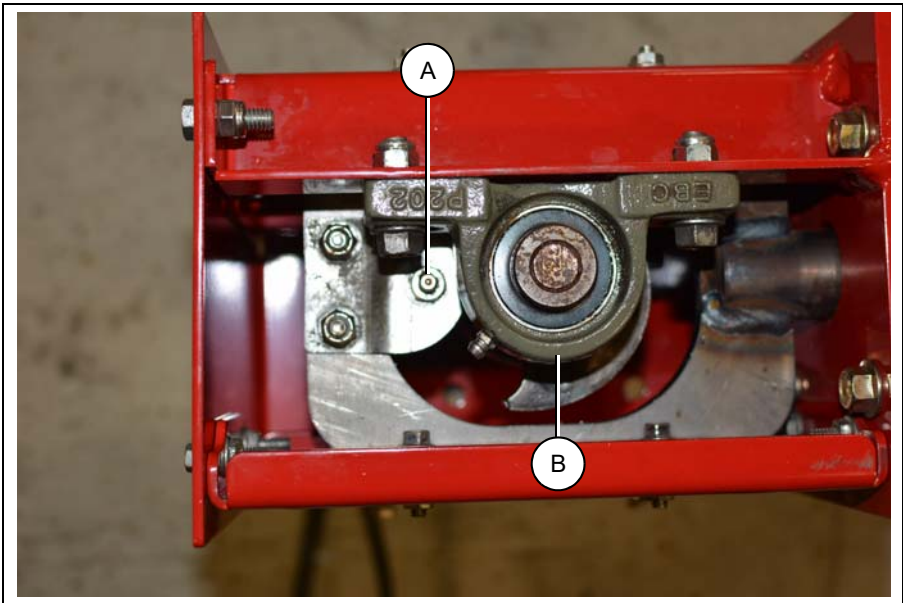
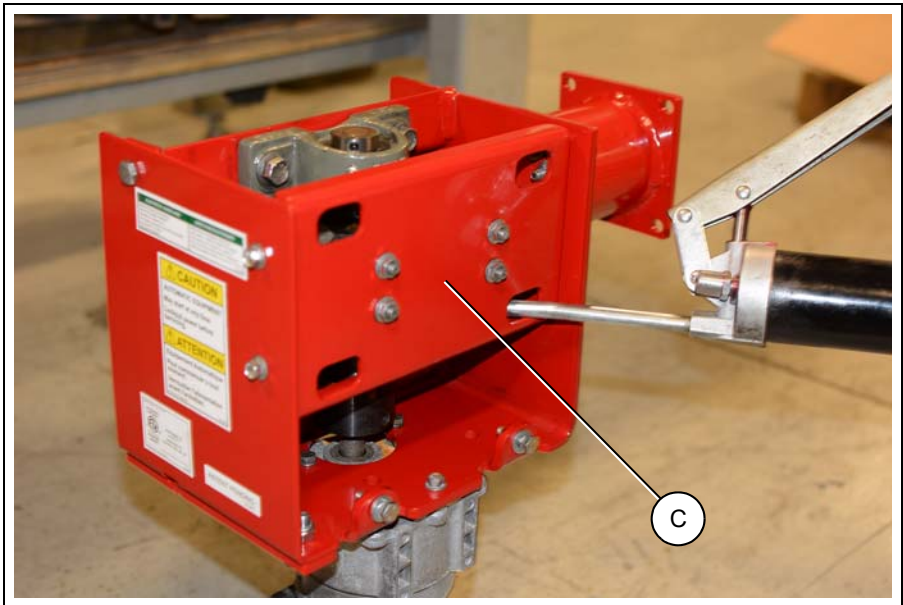

Figure 6A
Figure 6B
- 2. Use standard lithium based grease gun to grease the three (3) bearings. *(See Figure 6A and Figure 6B.)*